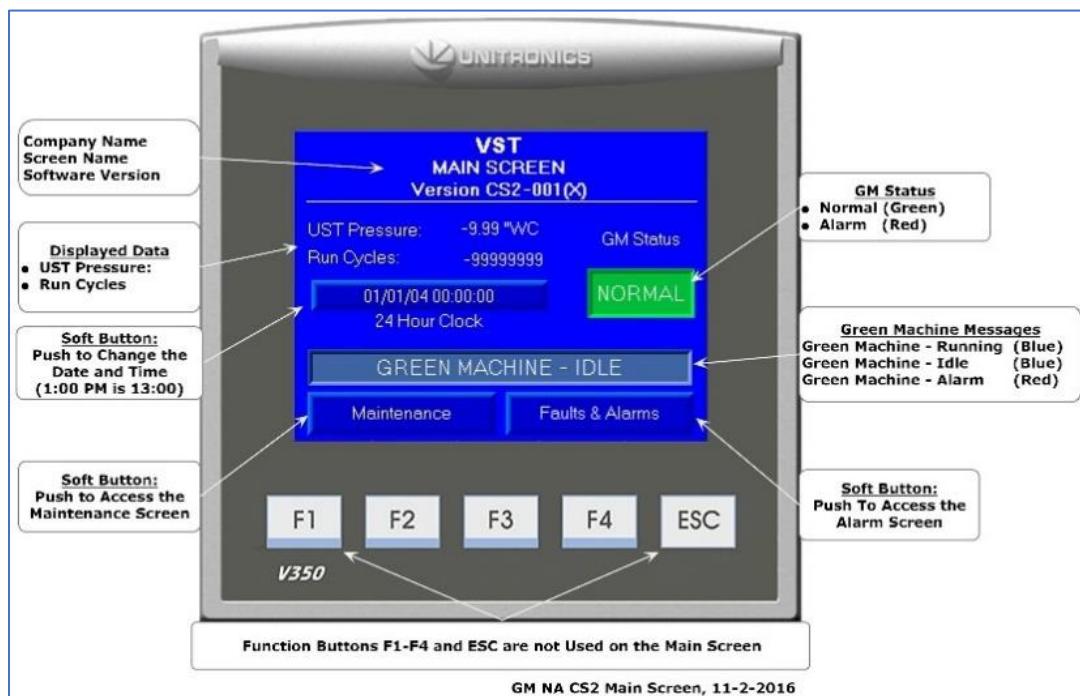

Figure 8-1: VST GREEN MACHINE Control Panel Main Screen
- During normal operation when the GREEN MACHINE is functioning properly and no alarm conditions exist, the “NORMAL” message in a Green Box will appear in the Main Screen GM Status window. **See Figure 8-1.**